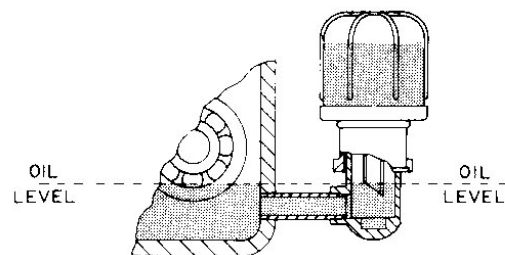

Figure 22
3. Fill the reservoir with oil, place thumb over reservoir spout, invert and screw reservoir inter upper casting. Allow reservoir to empty, filling the bearing housing (Figure 22). Depending on the size and capacity of the bearing housing several fillings of the reservoir may be required before the actual oil level is reached. **NEVER USE THE LOWER CASTING ONLY AS A FILL SPOUT, ALWAYS FILL THROUGH THE RESERVOIR.** When oil level is reached, no more oil will run out of reservoir bottle.